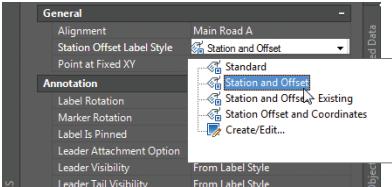

FIGURE 2.3 Assigning the Station And Offset label style to the label
- 3. Change the value for Station Offset Label Style to Station And Offset, as shown in Figure 2.3. Notice how the content of the label changes.